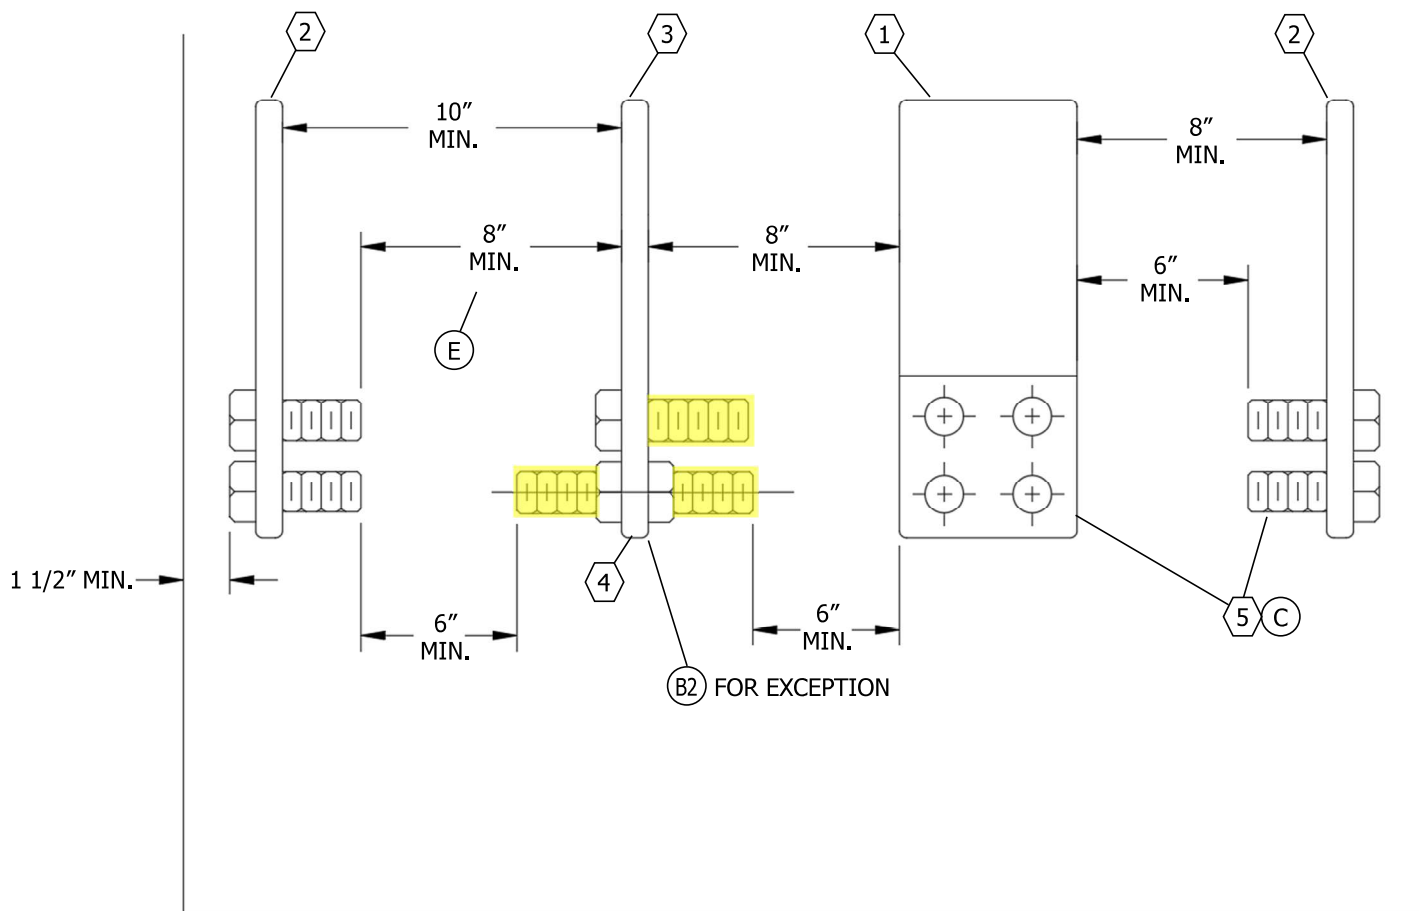

FIGURE 3
- ② EXCEPTION: EDGEWISE TERMINATING FACILITIES MAY CONSIST OF 9/16-INCH HOLES HAVING THE SAME SPACING AS SPECIFIED FOR THE 1/2-INCH BOLTS ABOVE. THE UNOBSTRUCTED WORKING SPACE SHALL BE PROVIDED ON BOTH SIDES OF TERMINATION BUS.
- ⓔ EACH TERMINATING FACILITY SHALL HAVE AN UNOBSTRUCTED WORKING SPACE, ACCESSIBLE FROM FRONT OF THE UGPS AS VIEWED FROM ACCESS COMPARTMENT OPENING, IN FRONT OF ENTIRE MOUNTING SURFACE AS SHOWN IN FIGURES 3 AND 4. NO MORE THAN ONE TERMINATION FACILITY MAY BE MOUNTED ALONG A SIDE WALL. WHEN VIEWED FROM FRONT OF THE PULL CAN OR UGPS, NO OTHER TERMINATION OR CABLES IN PLACE SHALL IMPAIR THE 8-INCH MINIMUM WORKING CLEARANCE. UNINSULATED BUSSES OF DIFFERENT POTENTIALS SHALL NOT BE PERMITTED BELOW OR BEHIND ANY TERMINATING POSITION AS VIEWED FROM FRONT OF THE UGPS. IF CROSS-BUSSING IS INSTALLED BELOW OR BEHIND A TERMINATING POSITION, CROSS-BUSSING SHALL BE FULLY INSULATED OR BARRIERED.